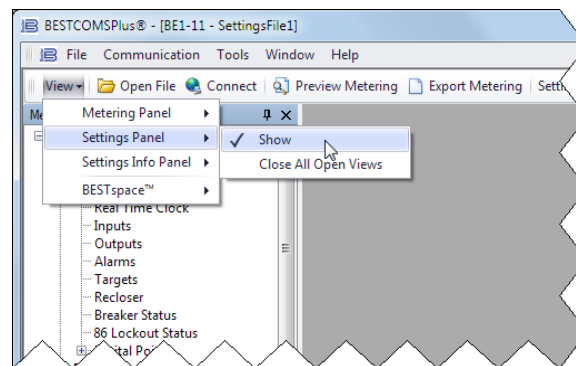

Figure 2-9. View Drop-Down Button
Click the View drop-down button to switch between the Settings Explorer and Metering Explorer or split the view between both. The Settings Info Panel displays settings ranges. A workspace can be opened, saved, or set as default. See Figure 2-9.
- Step 4: Click on the View drop-down button and de-select Show Metering Panel and Show Setting Information. See Figure 2-9. This maximizes the settings workspace.